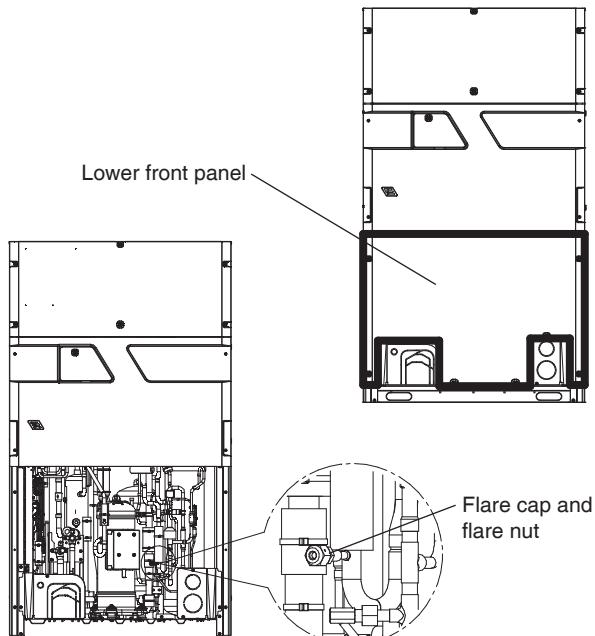

Figure 3A
- Remove the lower front panel from the outdoor unit and identify the location of the gauge port with check valve. See Figures 3A, 3B & 3C. (Next page)